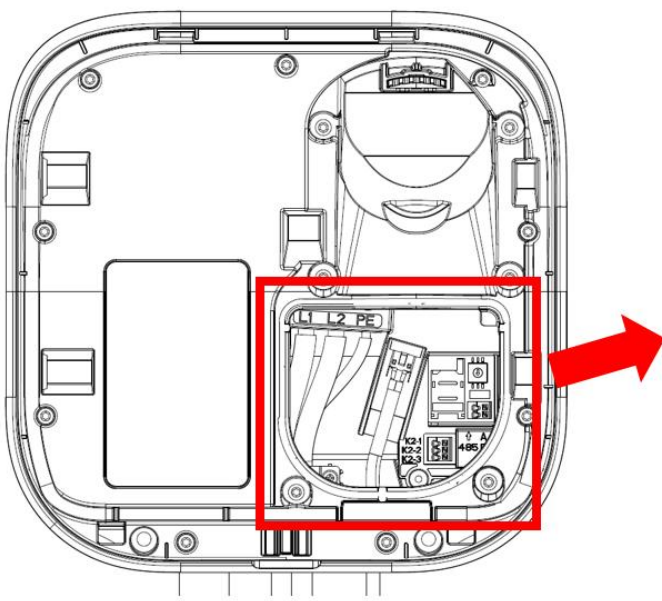
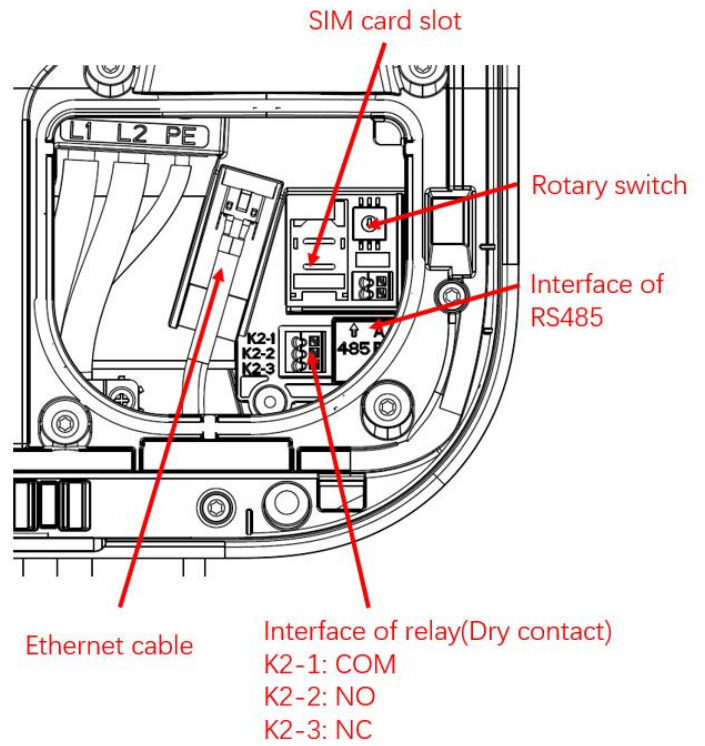

Fig. 4-12 Ethernet cable
Fig. 4-13 Button description
- Insert the network cable into the Ethernet cable port and install the SIM card, as shown in Fig. 4-12 and Fig. 4-13.